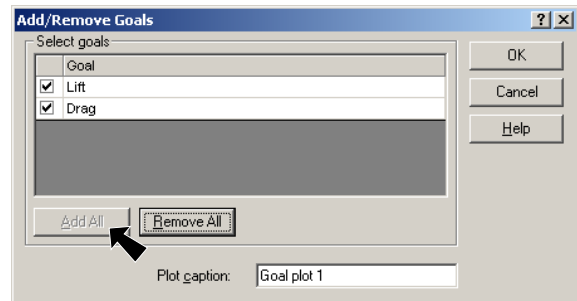
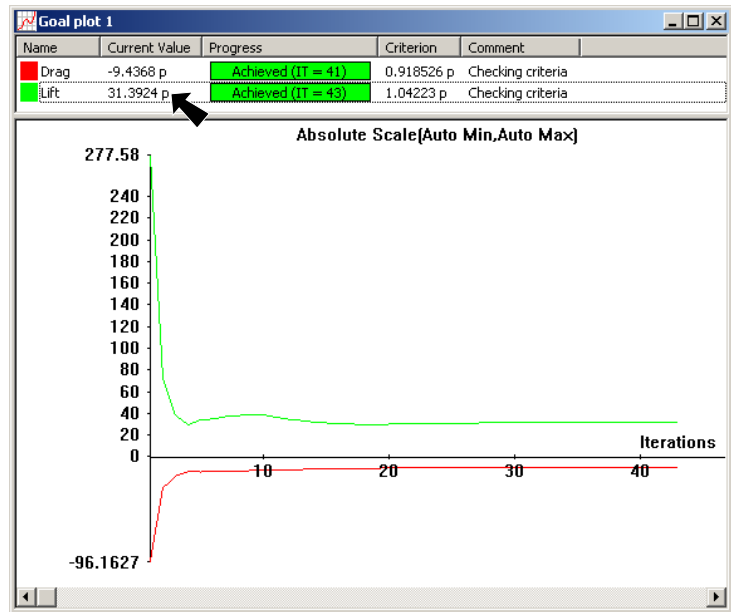

Fig. 18
Fig. 19
Step 2. Click Insert Menu > Goal Plot in the Solver, **Fig. 18**.
Step 3. Click **Add All** and OK in Add/Remove Goals, **Fig. 18**. Our Lift was **31.39**, **Fig. 19**.